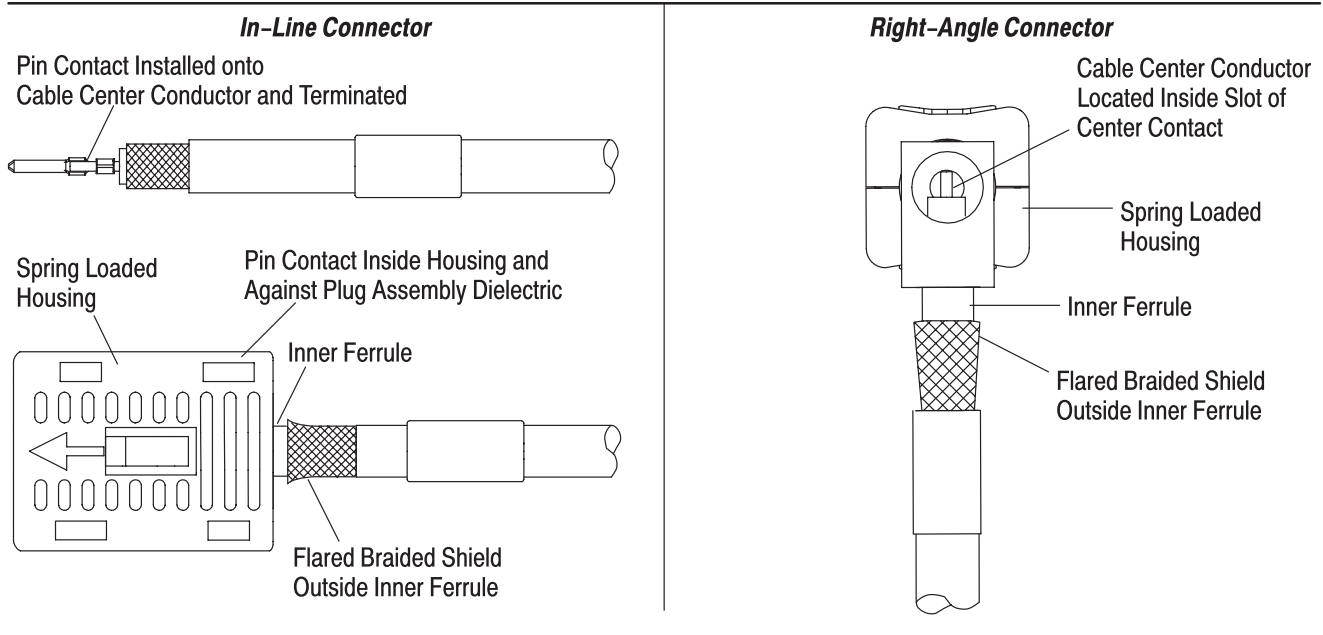

Figure 3
2. The pin contact must be inserted into the inner ferrule of the plug assembly until the cable dielectric butts against the plug assembly dielectric. The flared braided shield must be outside the inner ferrule. See Figure 3.
1. The cable center conductor and dielectric must be slid inside the inner ferrule until the center conductor is located within the slot of the center contact. The flared braided shield must be outside the inner ferrule. See Figure 3.